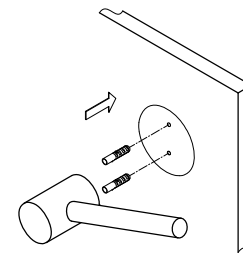

Fig. 4
Step 3. Insert anchors into the holes with a hammer until flush with the wall (fig 4).